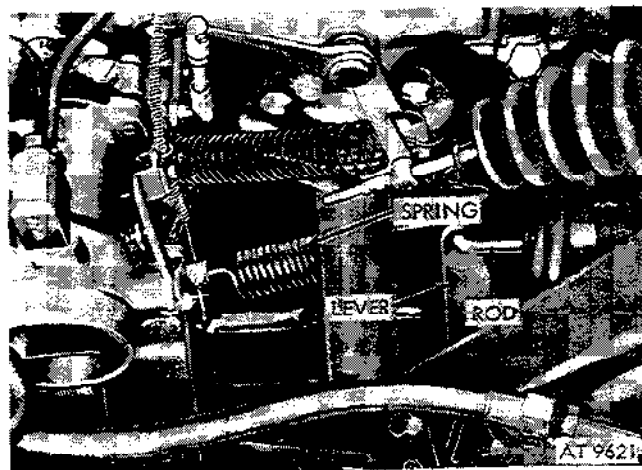

Figure 2-77. Clutch adjustment.
- (1) Remove clutch return spring located on left side of engine (fig. 2-77).
- (2) Slip rod out of clutch release equalizer shaft lever and rotate the rod until the pedal free travel is obtained (fig. 2-77).